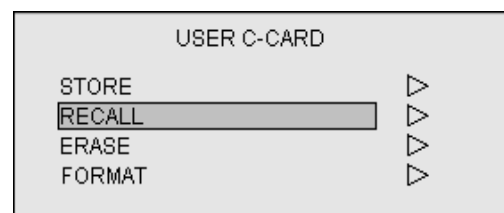
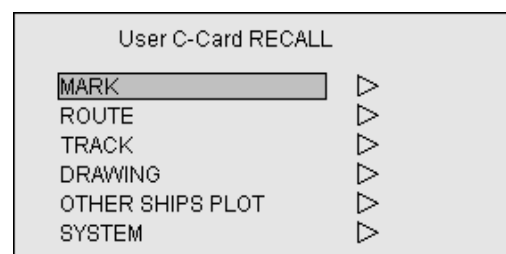

Figure 6.71 USER C-CARD MENU
Figure 6.72 User C-Card RECALL MENU
- (1) Press the MENU key to display the Main menu.
- (2) Move the Joystick up or down to highlight “USER C-CARD.”
- (3) Press the Joystick to the right to enter its sub-menu RECALL. (Figure 6.71)
- (4) Move the Joystick up or down to highlight RECALL.
- (5) Press the Joystick to the right to enter its sub menu. (Figure 6.72)
- (6) Move the Joystick up or down to highlight the item to be selected.